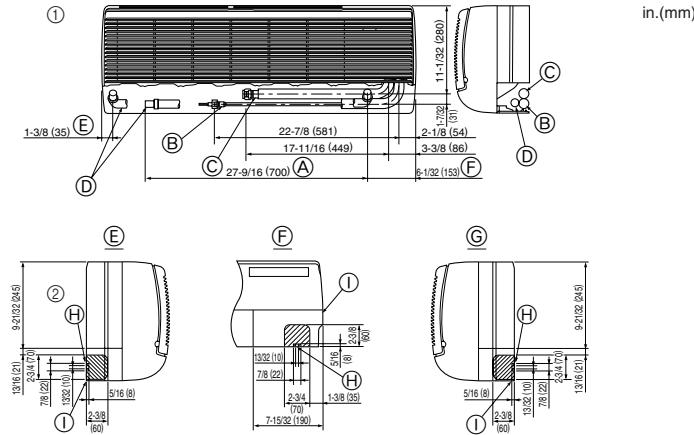

Fig. 4-4
- (E) Left-side piping
- (F) Lower piping
- (G) Right-side piping
- (H) Knockout hole for left-side piping
- (I) Corner box
- (J) Knockout hole for lower piping
- (K) Through hole for the remote controller's cable
- (L) Knockout hole for right-side piping
■ PKFY-P12/P15NGMU-E (Fig. 4-4)
- ① Position of refrigerant and drain piping
- (A) Total length of flexible hose
- (B) Liquid pipe
- (C) Gas pipe
- (D) Drain hose
- (F) Right-side piping
- ② Determine the position of the knockout holes on the unit body.